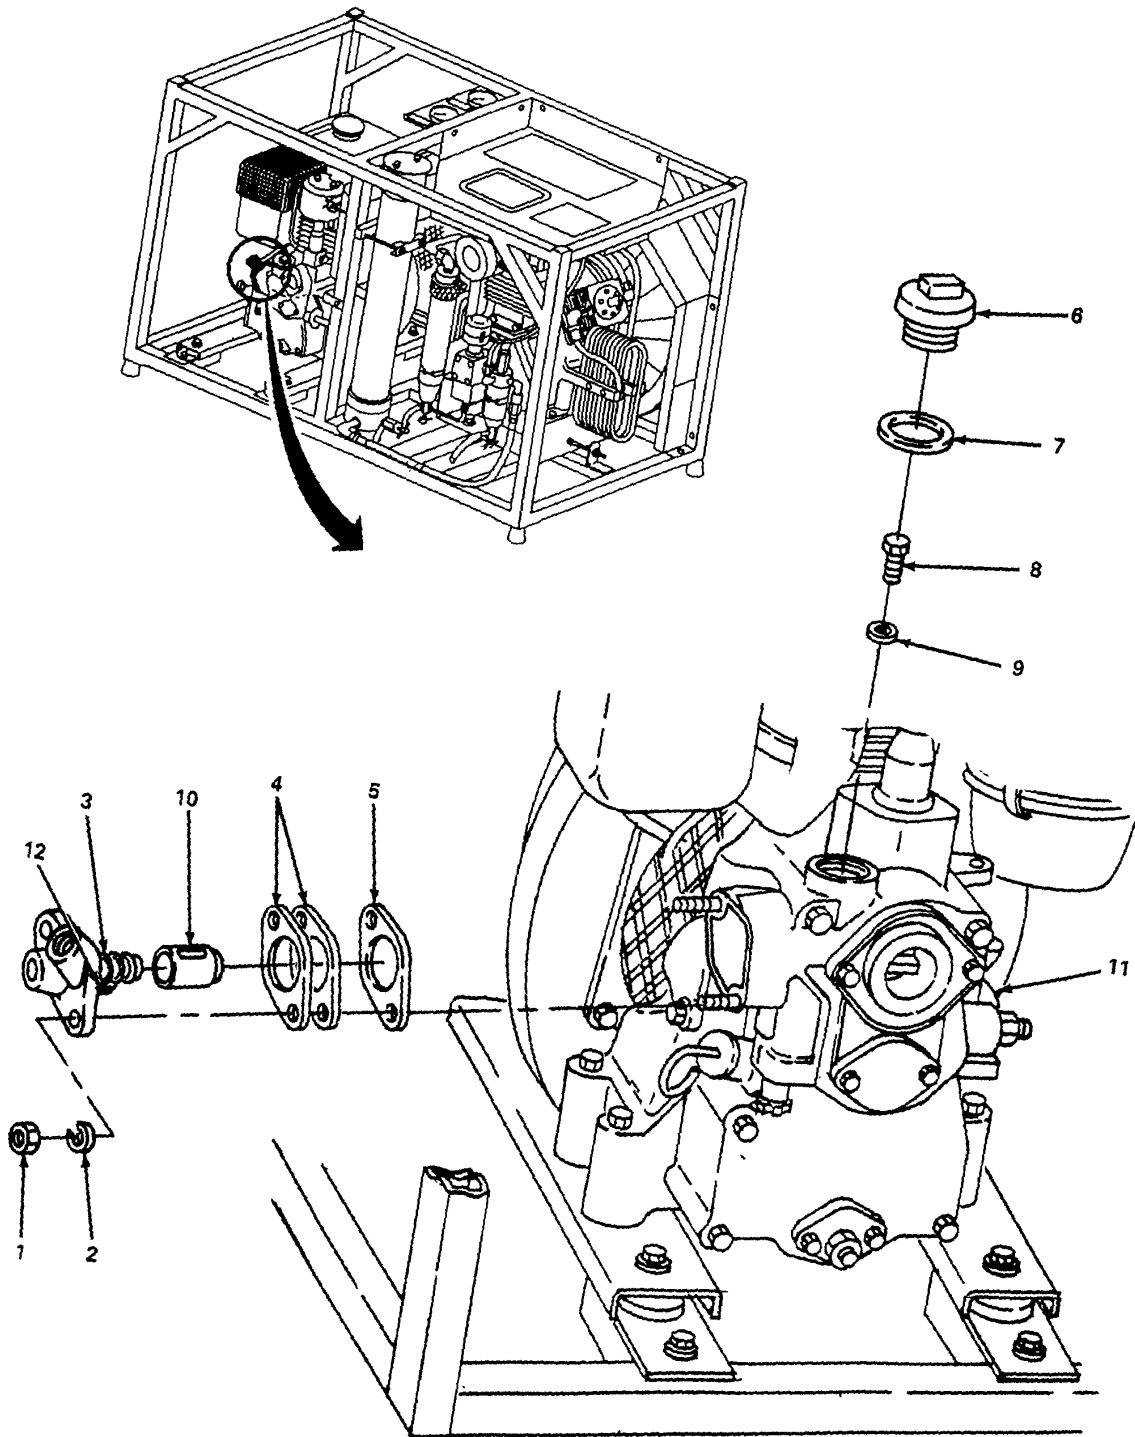

Figure 5-40. Fuel Injection Pump, Replace
(15) Remove banjo bolt (9), washer (8), and washer (10).
(16) Install plug (6) and washer (7).
b. Replace. (figure 5-40)
(1) Remove two nuts (1) and lockwashers (2) and remove fuel injection pump (3), shims (4), and gasket (5). Discard gasket (5).
(2) Remove filler cap (6) and gasket (7).
(3) Remove roller tappet (10) and discard.
(4) Ensure all gasket seating surfaces are clean and old gasket material is removed.
(5) Inspect shims (4) and replace with same sized ones if worn or cracked.
(6) Install new roller tappet (10), with slot facing up, and install bolt (8) and washer (9).
(7) Install filler cap (6) and gasket (7).
(8) Place speed control lever (11) in horizontal position.